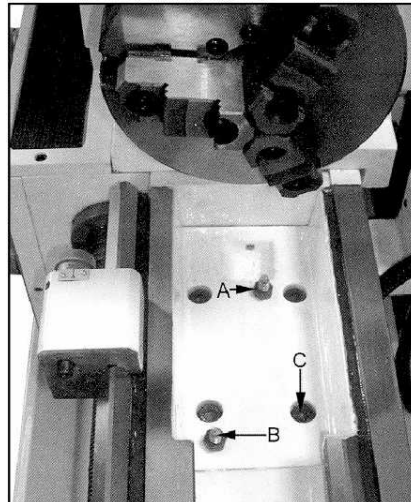

Fig 21
Pull the taper pins (B, Fig 21) by tightening the hex nuts (A).